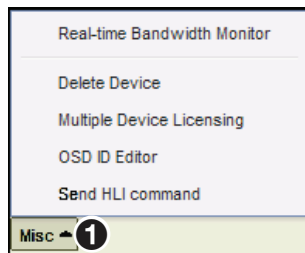

Figure 43. Misc Menu
This menu contains five selections (see figure 43).
Click **Misc** (see figure 43, ❶) to open the list.